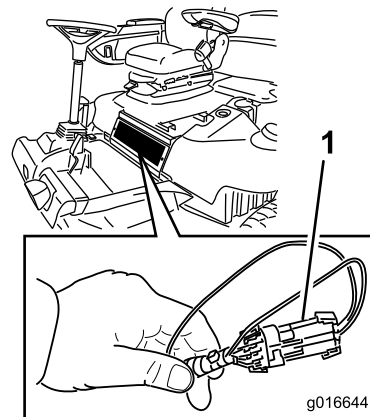

Figure 43
2. Remove the access panel located beneath the front of the seat (Figure 43).
3. Locate the wire harness and connectors near the controller (Figure 43).